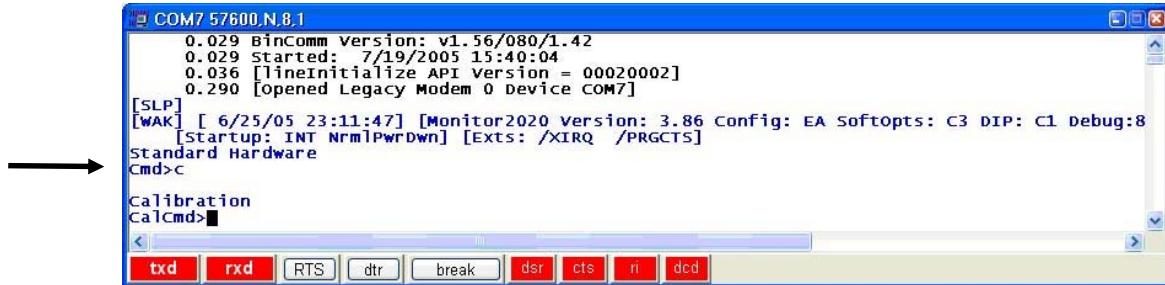

Fig. 10.2: Enter Calibration Mode
- 10.2.4 On the floating terminal screen, assert **rts** (Alt-R or click on “rts”). This awakens the Monitor from sleep mode. (Fig. 10.2). The
- 10.2.5 Type a **c** at the **Cmd>** prompt (**Cmd>c**) to enter the **Calibration Mode**. Fig. 10.2